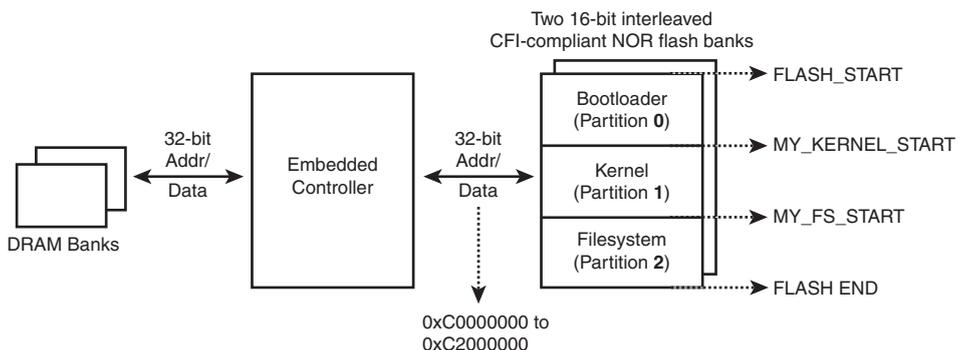

FIGURE 17.2 Flash Memory on a sample Linux handheld.
Consider the Linux handheld shown in Figure 17.2. The flash has a size of 32MB and is mapped to 0xC0000000 in the processor's address space. It contains three partitions, one each for the bootloader, the kernel, and the root filesystem. The bootloader partition starts from the top of the flash, the kernel partition begins at offset `MY_KERNEL_START`, and the root filesystem starts at offset `MY_FS_START`.⁴ The bootloader and the kernel reside on *read-only* partitions to avoid unexpected damage, while the filesystem partition is flagged *read-write*.
Let's first create the flash map and then proceed with the driver initialization. The map driver has to translate the flash layout shown in the figure to an `mtd_partition` structure. Listing 17.1 contains the `mtd_partition` definition corresponding to Figure 17.2. Note that the `mask_flags` field holds the permissions to be masked, so `MTD_WRITEABLE` implies a read-only partition.
flash in Figure 17.2 */
- Probes the flash via a suitable MTD chip driver (discussed in the next section). Only the chip driver knows how to query the chip and elicit the command-set required to access it. The chip layer tries different permutations of bus widths and interleaves while querying. In Figure 17.2, two 16-bit flash banks are connected in parallel to fill the 32-bit processor bus width, so you have a two-way interleave.